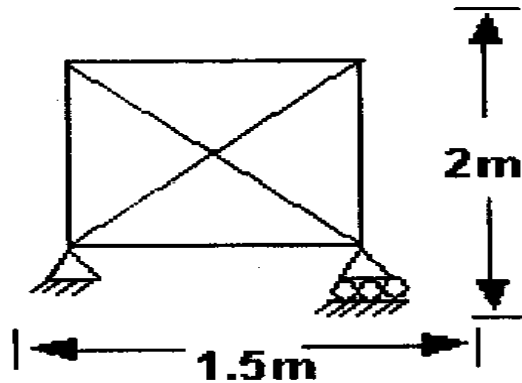

Figure 3:
8. While Fabricating the pin pointed frame shown in Figure 3; the member AC was the last member to be fitted, and was found to be 1mm short of the resumed lasted. Find the force in AC the diagonal members are  $1000mm^2$  in area while others are  $2000mm^2$  in area  $E = 200Gpa$  [16]